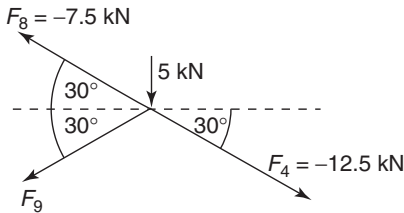

Figure 4.39
Consider joint (5); see Figure 4.39.